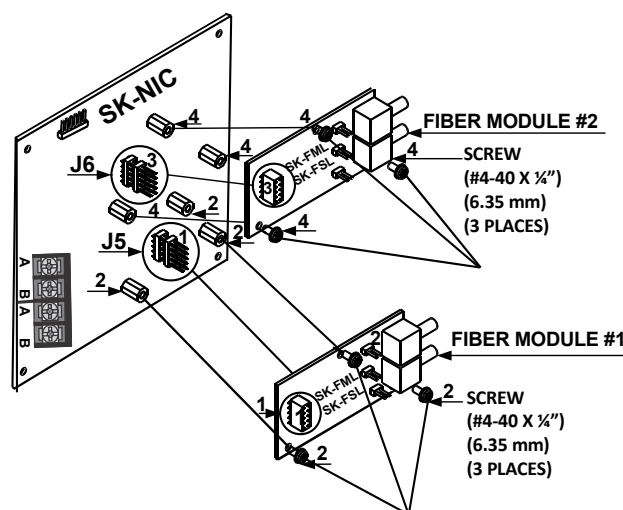
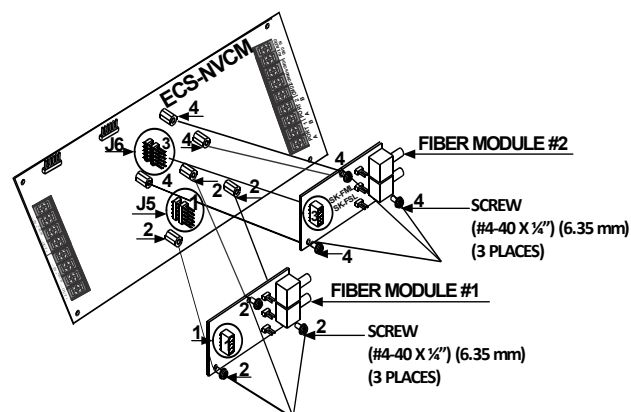

Figure 3.2.1 SK-FML Installation
Figure 3.2.2 SK-FSL Installation
4. Plug the Fiber Module #1 into P6 of the ECS-NVCM or SK-NIC circuit as shown in Location 1 in Figure 3.2.1 and Figure 3.2.2.
5. To connect the Fiber Module #1 to the ECS-NVCM or SK-NIC, insert and secure three screws (#4-40 x 1/4") as shown in Location 2 in Figure 3.2.1 and Figure 3.2.2.
6. Plug the Fiber Module #1 into P5 of the ECS-NVCM or SK-NIC circuit as shown in Location 3 in Figure 3.2.1 and Figure 3.2.2.
7. To connect the Fiber Module #1 to the ECS-NVCM or SK-NIC, insert and secure three screws (#4-40 x 1/4") as shown in Location 4 in Figure 3.2.1 and Figure 3.2.2.
Figure 3.2.1 illustrates the SK-FML/SK-FSL installed to the SK-NIC.
Figure 3.2.2 illustrates the SK-FML/SK-FSL installed to the ECS-NVCM.